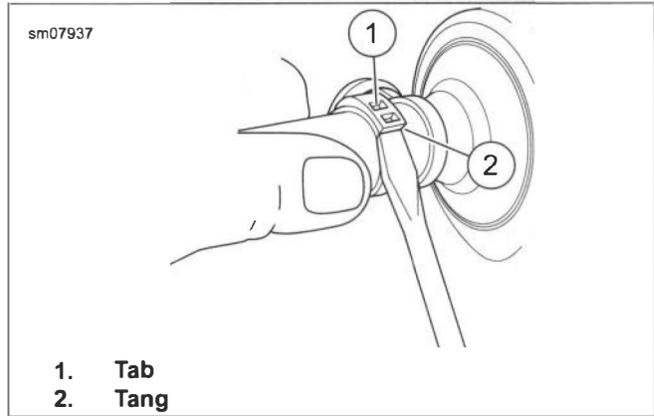

Figure 4-15. Removing Crimp Clamp
1. See Figure 4-15. Push tip of small screwdriver under end of tang (2).